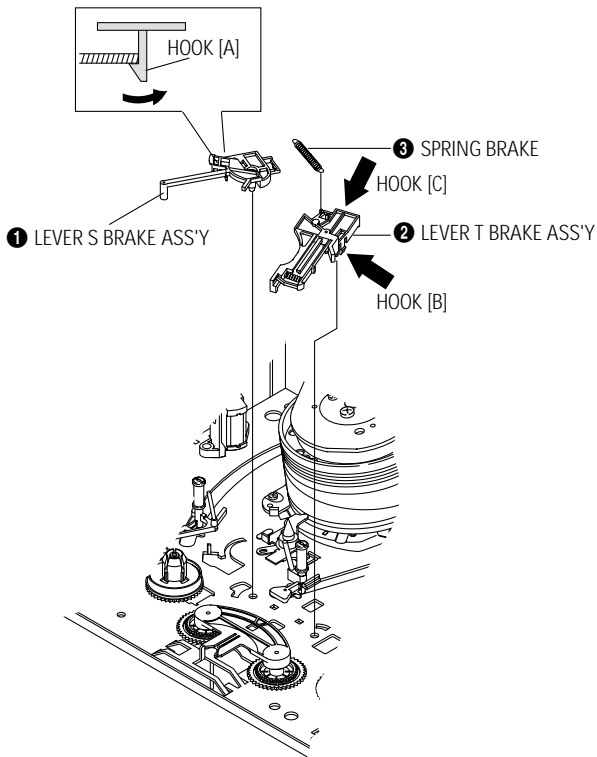

Fig. 4-20 Lever S, T Brake Ass'y Removal
- 1) Release the Hook [A] and the Hook [B], [C] in the direction of arrow as shown in Fig. 4-20.
- 2) Lift the Lever S, T Brake Ass'y ❶, ❷ with Spring Brake ❸.